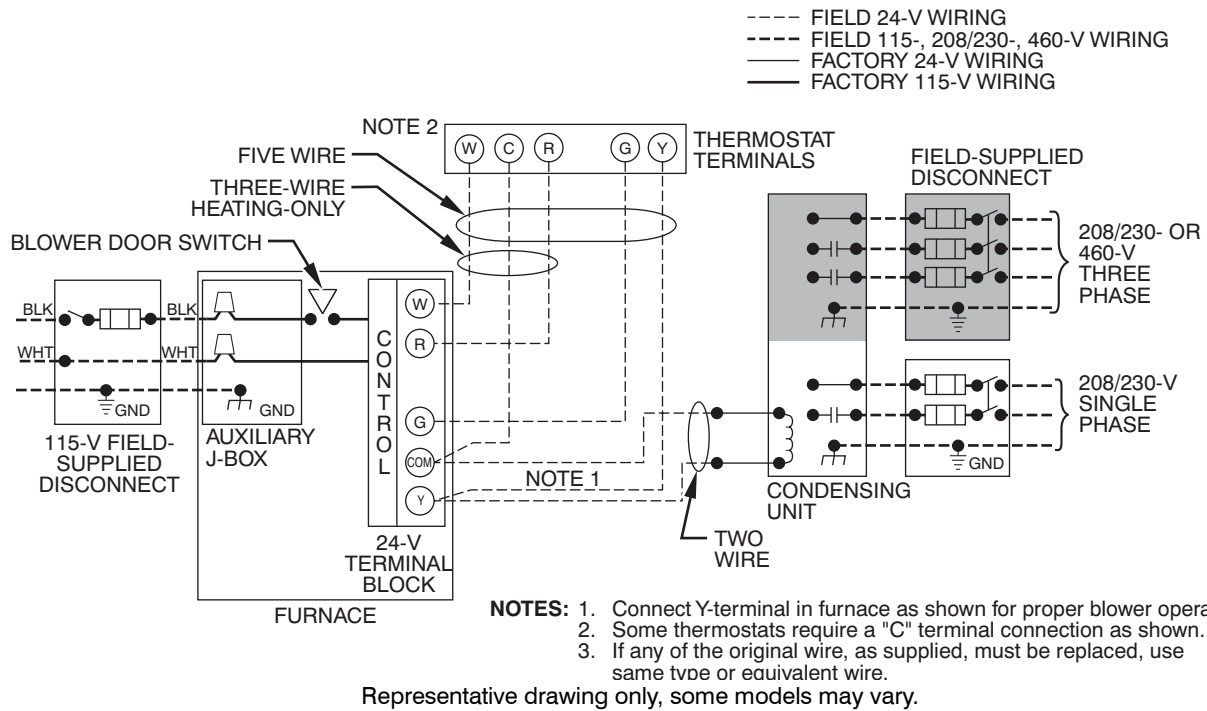
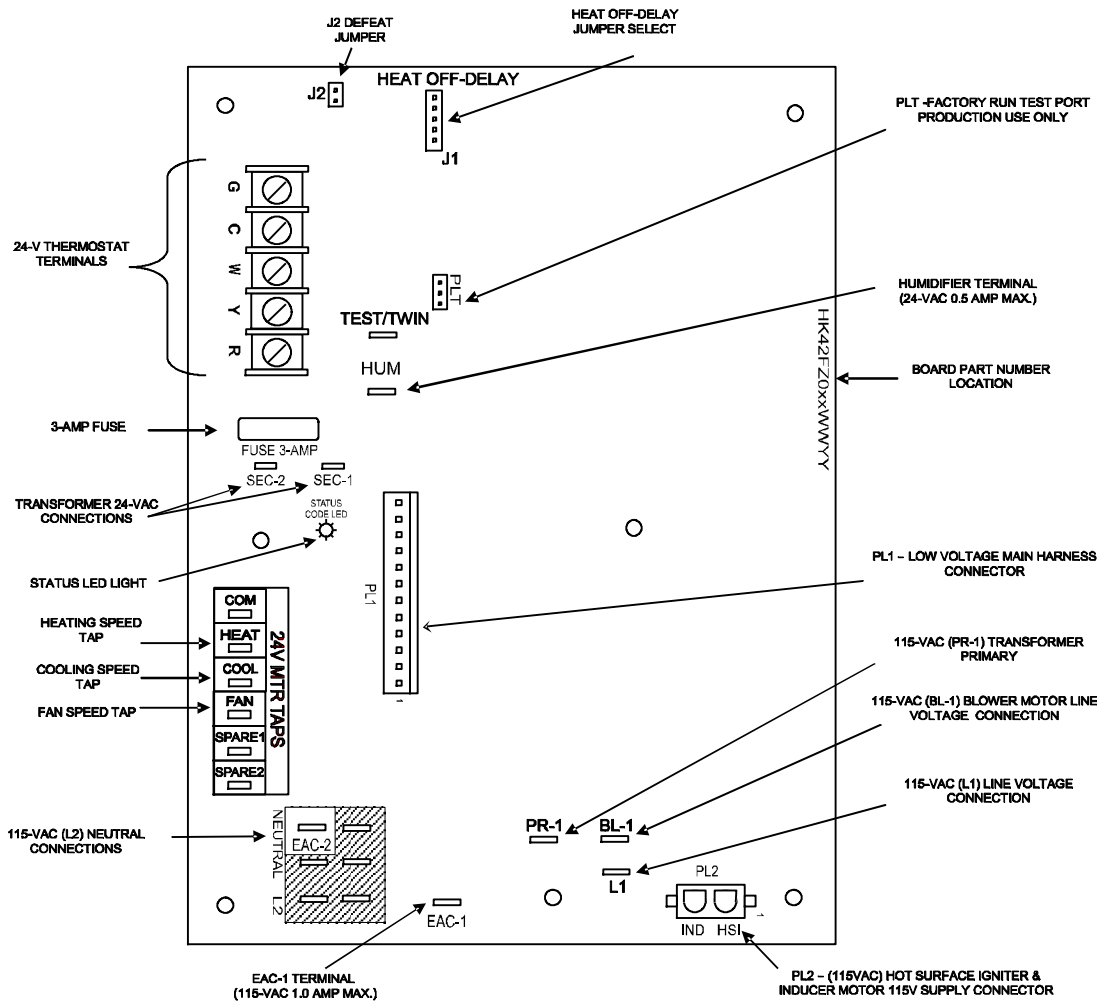

Fig. 35 - Typical Single-Stage Wiring Diagram
Fig. 36 - Example of Single Stage Furnace Control
See Fig. 35 for field wiring diagram showing typical field 115-V wiring. Check all factory and field electrical connections for tightness.
6. Connect power cord power and neutral leads to furnace power leads as shown in Fig. 35.
5. Connect field power and neutral leads to furnace power leads, as shown in Fig. 35.
Make field 24-v connections at the 24-v terminal strip. See Fig. 36. Connect terminal Y as shown in Fig. 35 for proper cooling operation. Use only AWG No. 18, color-coded, copper thermostat wire.
The 24-v circuit contains an automotive-type, 3-amp. fuse located on the control. Any direct shorts during installation, service, or maintenance could cause this fuse to blow. If fuse replacement is required, use **ONLY** a 3-amp. fuse of identical size. See Fig. 36.
Accessories (See Fig. 36.)